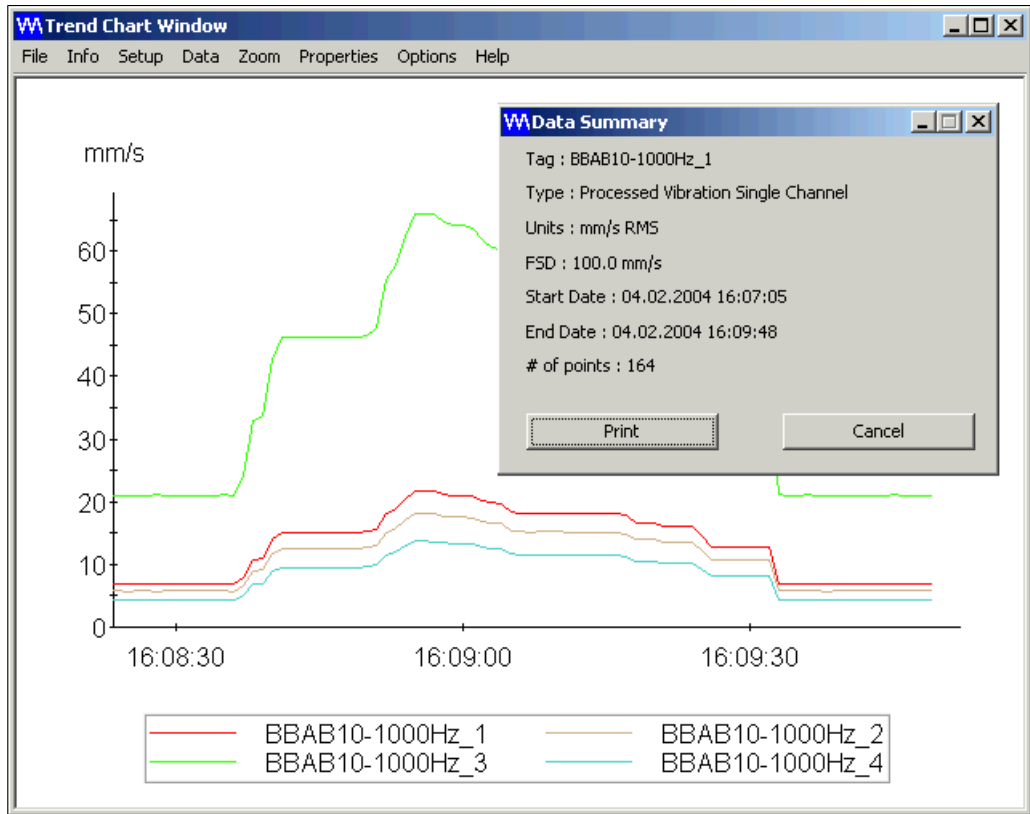

Figure 8-6: Typical Historic Trend Chart window with the Data Summary window open
- To obtain a data summary for each curve displayed, choose **Data** from the **Info** menu. A Data Summary window resembling that shown in Figure 8-6 appears. The **Start Date**, **End Date** and **No. of Points** relate only to the part of the curve displayed. To display a data summary for another signal, simply click the name of the signal from the list of names appearing at the bottom of the Historic Trend Chart window.